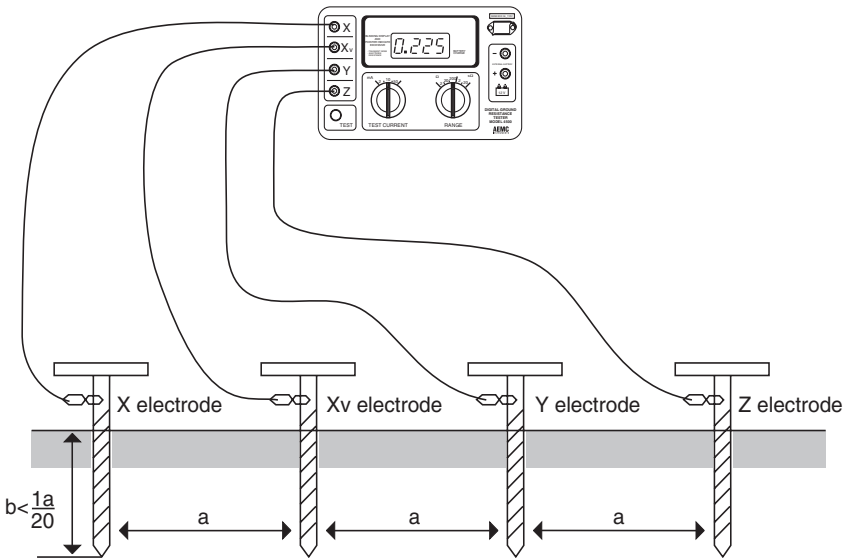

Figure 18
- Arrange the electrodes in a straight line. Be sure that distances between electrodes are identical: e.g. 3 meters between each electrode (See Figure 18).
- Read the resistance level (R) indicated on the display.